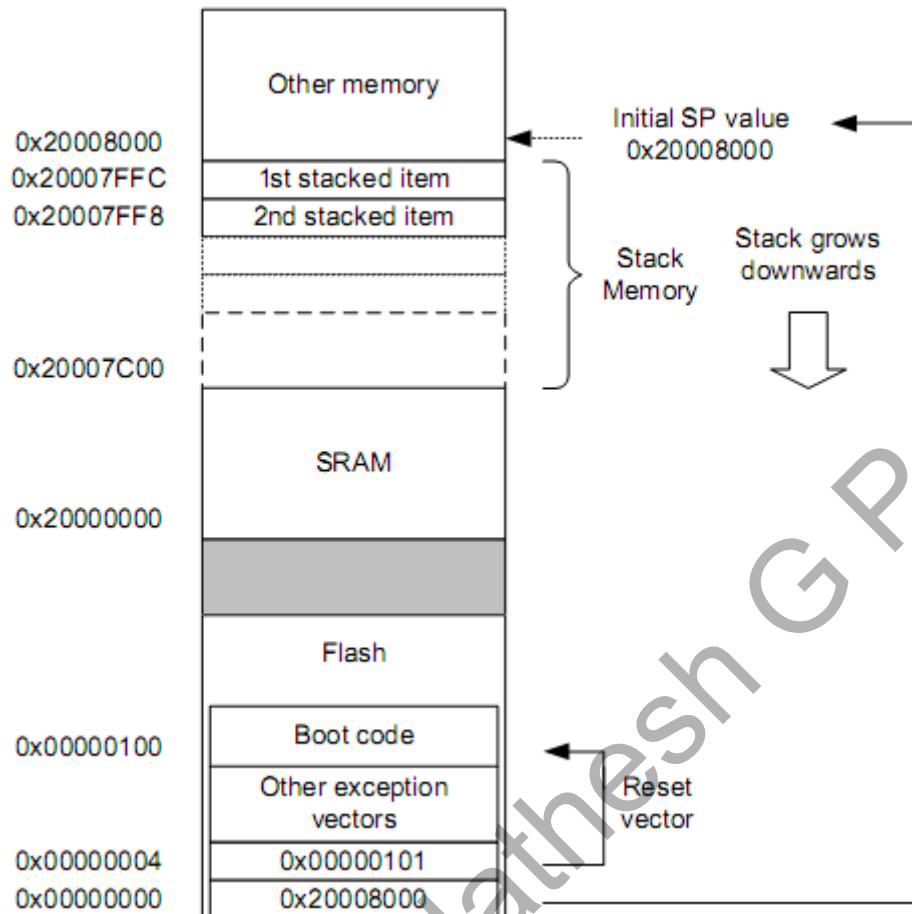

Figure 29: Initial Stack Pointer value and Initial Program Counter value example
- After these two words are read by the processor, the processor then sets up the MSP and the Program Counter (PC) with these values.
- E.x., if you have a stack memory range from 0x20007C00 to 0x20007FFF (1Kbytes), the initial stack value should be set to 0x20008000, as shown in Figure 29.
- For that reason the example in Figure 29 has 0x101 in the reset vector, whereas the boot code starts at address 0x100. After the reset vector is fetched, the Cortex-M processor can then start to execute the program from the reset vector address and begin normal operations.